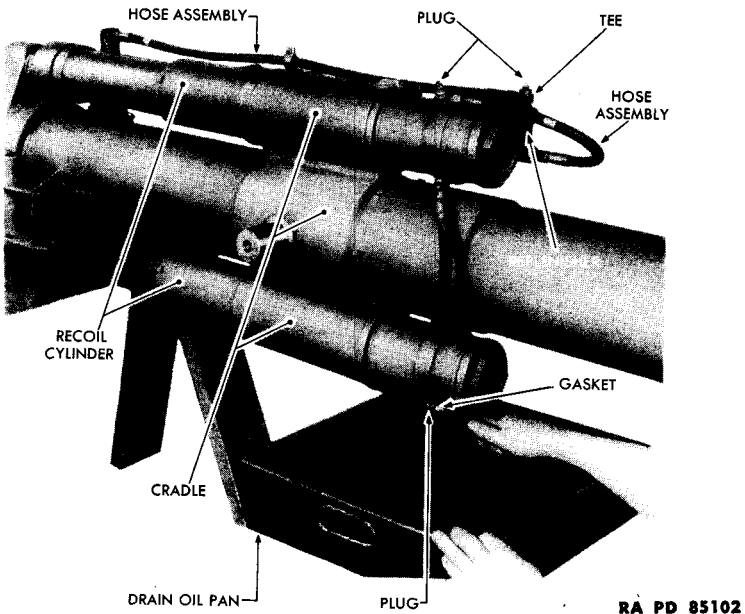
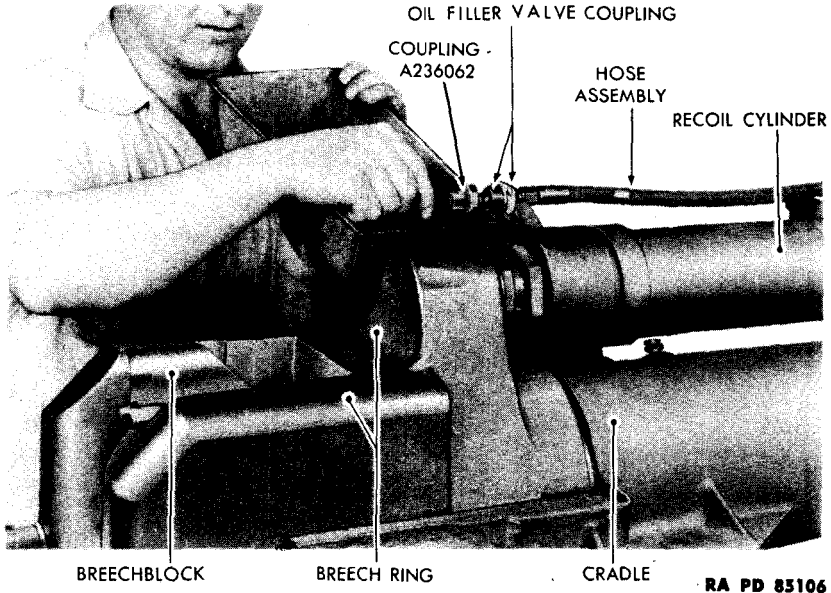

Figure 61 – Draining Recoil Cylinders
Figure 67 – Releasing Oil Pressure from Replenisher
a. Drain Recoil Cylinders. Hang a tag in a conspicuous place on gun or cradle to indicate type of recoil oil used, then release oil pressure from recoil system by securing coupling A236062 (part of oil filling hose assembly B269301) onto filler hose coupling and allow oil under pressure to escape from system (fig. 67). Place a drain oil pan beneath plug located in lower forward end of lower recoil cylinder (fig. 61). Remove plug and gasket from lower recoil cylinder to allow recoil oil to drain from cylinders. Remove purge plug (fig. 59) to facilitate draining of recoil system.
a. Release Oil Pressure from Replenisher (fig. 67). Hold drain oil receptacle under oil filler valve coupling and screw coupling A236062 onto filling hose coupling to release oil pressure.